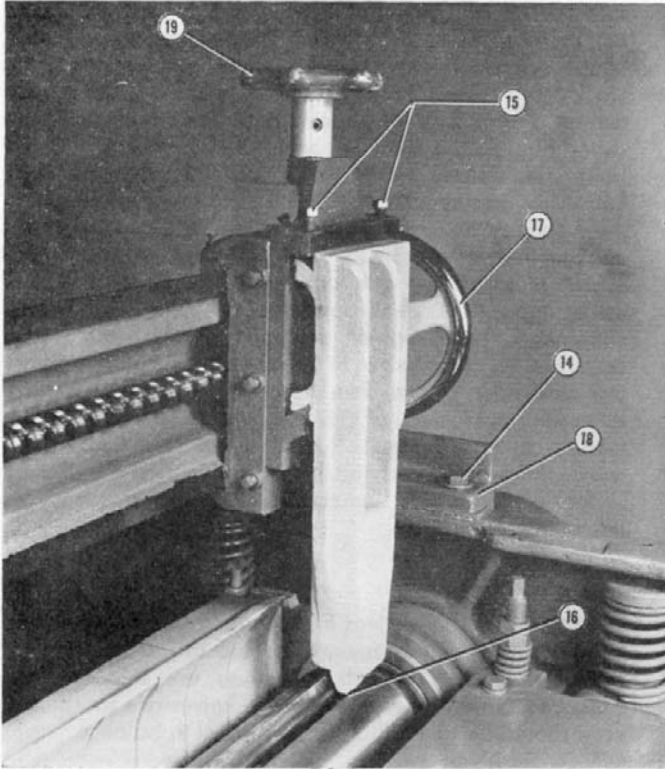

Figure 4
Planer bed rollers are adjusted to the proper height with a quik-set handle mounted on the right side of the planer bed. The height of the rollers in relation to the bed surface is indicated by a graduated dial and pointer on the quik-set handle. If table rollers do not correspond with the height indicator scale, adjustments can be made by loosening the set screw (26) fig. 4 in the roller adjusting arms. Set indicator pointer at zero on the gauge and turn adjusting screws (27) until the bed rollers are level with the planer bed. To plane rough lumber, set quik-set indicator on .030", for medium rough .010" to .015" and for finished lumber .000" to .010". Set the rollers high enough so that the lumber will feed through the machine without hesitation.
1. Carefully study illustrated numbers on pictures (Figures 4, 5, 6).
3. Place jointer bar in position and bolt down with cap screws (14) fig. 4. Cap screws should be tightened very snugly.
4. Place jointer bracket on jointer bar head and fasten with set screws (15) fig. 4.
5. Rotate cutterhead until the edge of the cutterhead knife slot is in line with the edge of the jointer stone (16) fig. 4.
6. Move jointing head back and forth on the jointing bar with handwheel (17) fig. 4 for parallel alignment. If the bar does not move in exact parallel with the knife edge, the holes in the jointer bar base (18) fig. 4 are large enough to permit alignment of the bar. (Make the alignment from one end of the bar).
7. When jointer bar is in alignment, cap screw (14) fig. 4 should be securely tightened. To level jointer bar with cutterhead, rotate cutterhead until jointer stone is be-
tween two of the knives. Adjust the jointer stone with handwheel (19) fig. 4 until it just clears the cutterhead.
Mount grinding attachment on jointer bar and secure in place with set screws (15) Fig. 4. Lock cutterhead in place for knife grinding with cutterhead lock (23) Fig. 6. Turn the knob (23) until the pin in the casting (24) enters the hole in knob (23). Turn the cutterhead by hand until the cutterhead is locked in place. Turn grinding wheel (9) Fig. 6 until the wheel very lightly touches knife (8) Fig. 6.